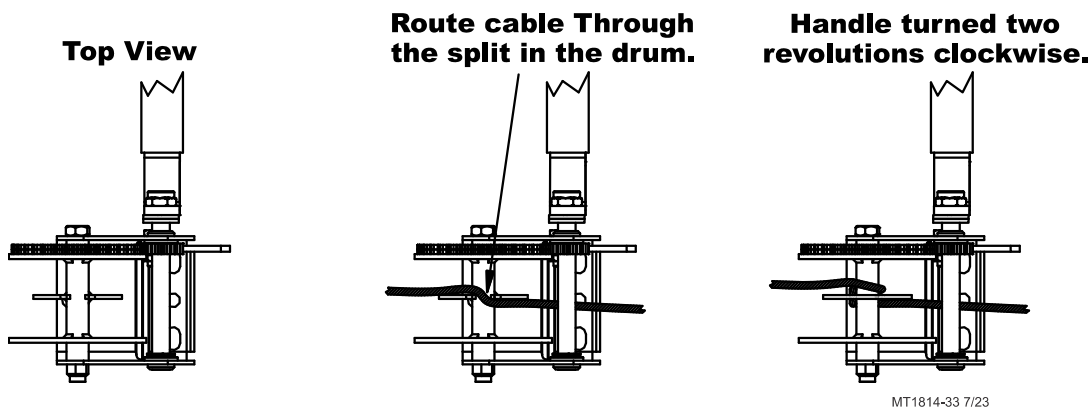

Figure 39. Winch cable wrap
- Lay the cable through the split in the winch drum. Turn the winch handle clockwise two revolutions to wind some cable onto the winch drum, see **figure 39**.